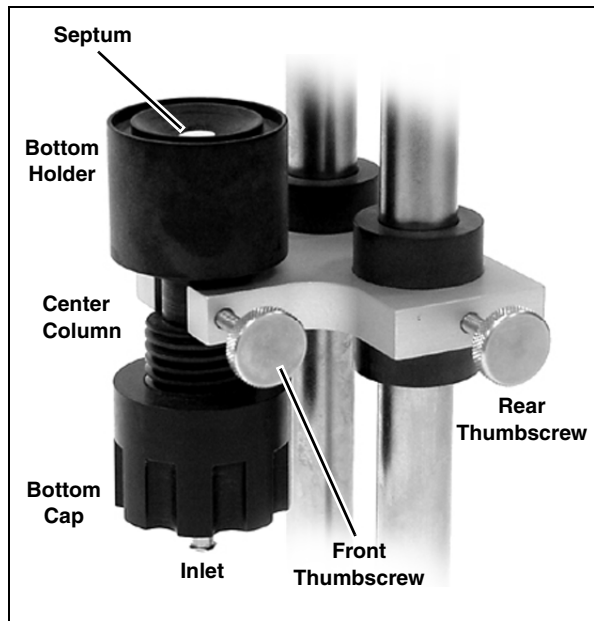

Figure 3-4 Piercing mechanism
1. Turn the bottom cap of the piercing mechanism (Figure 3-4) to lower the piercing needle.